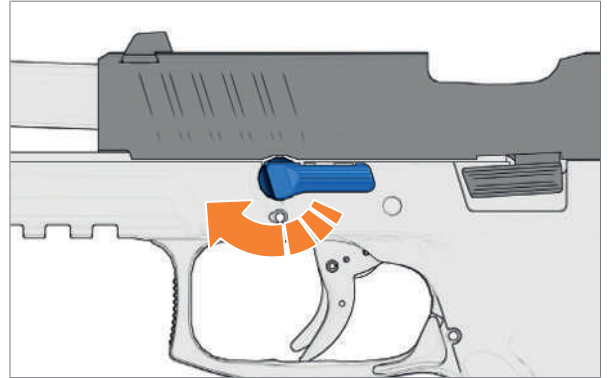

Fig. 60: Turning the disassembly lever
3. Turn disassembly lever clockwise as far as it will go (*Fig. 60*).